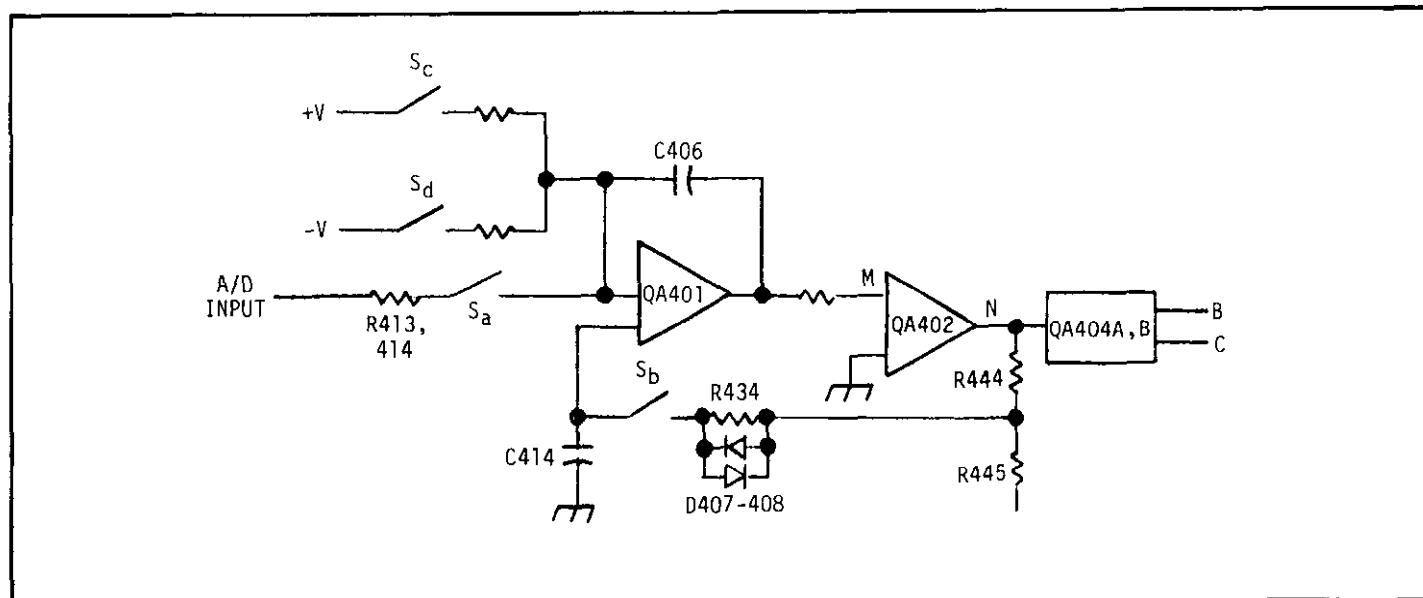

FIGURE 12. Integrator Simplified Diagram.
1. Zero Period. During this period the integrator amplifier is zeroed by a feedback rezeroing circuit as shown in Figure 12. Switches S_a, S_b, S_d are open to prevent integrator charging.
1. Integrator Circuit. The operation of the Integrator is controlled by the positions of switches Sa, Sb, Sc, and Sd (as shown in Figure 12). Switch Sa is Q401. Switch Sb is transistor Q411. Transistors Q404, Q405, Q408, Q409, and Q410 are control circuits arranged to control the proper FET switches depending on the signals at pins 12 and 13. The integrator amplifier consists of transistors Q402 and Q403 and integrated circuit QA401. The feedback capacitor is C406. Switches Sc and Sd control the current for 9-volt zener diodes D401 and D402. Resistors R403, R404, R405, R409, R410, and R411 are full-scale calibration resistors. Potentiometers R402 and R408 are internal screwdriver calibration adjustments.